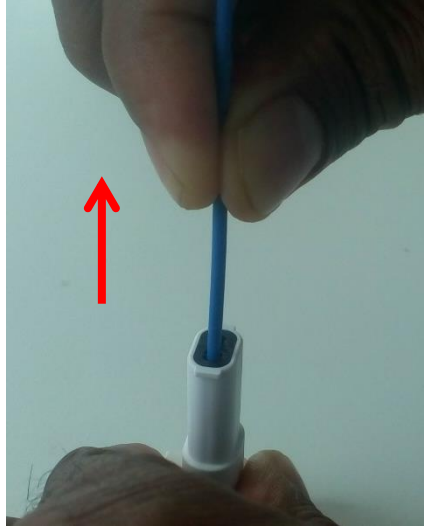

Figure 4
4. Push the terminal into the hole till the terminal reaches the dead end position (till it bottoms out) in the housing. Pull the terminal back gently to ensure that terminal is seated properly in the housing as shown in figure 4.